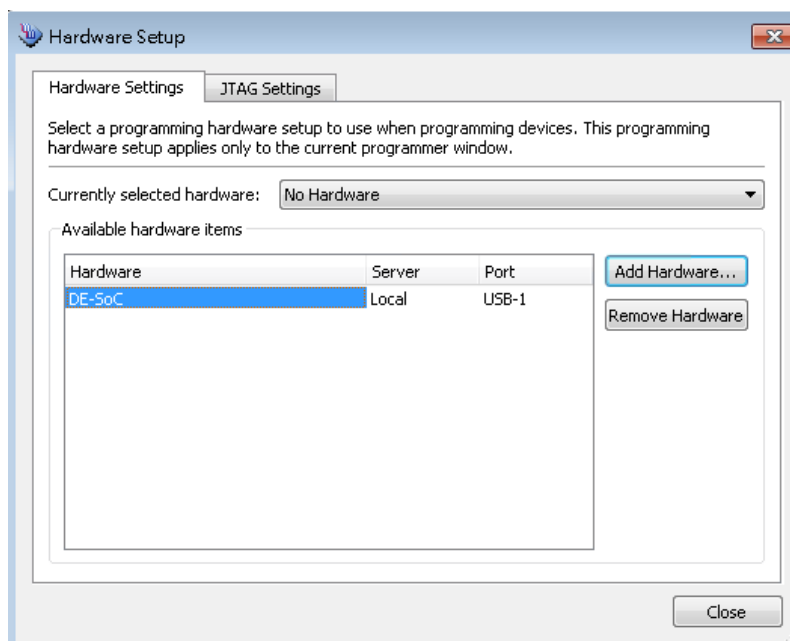

Figure 4-4 Hardware Setting
- If it is not already turned on, turn on the USB-BlasterII [USB-1] option under currently selected hardware. See Figure 4-4.